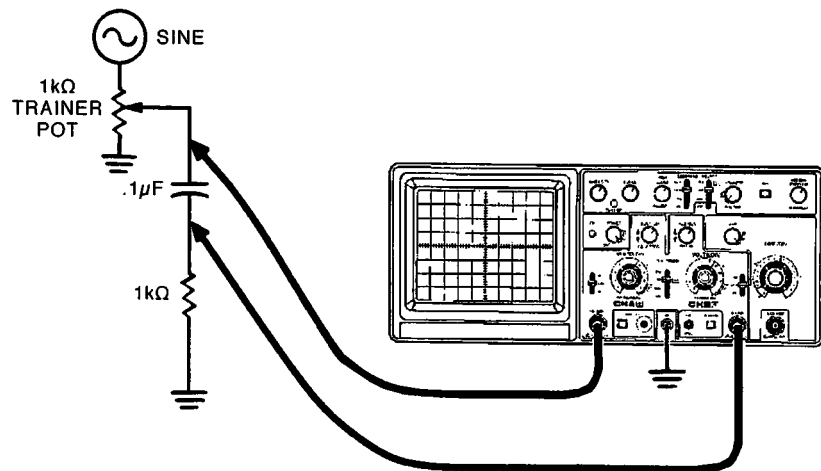

Figure 3-35
5. Switch the Trainer off and construct the circuit shown in Figure 3-35.